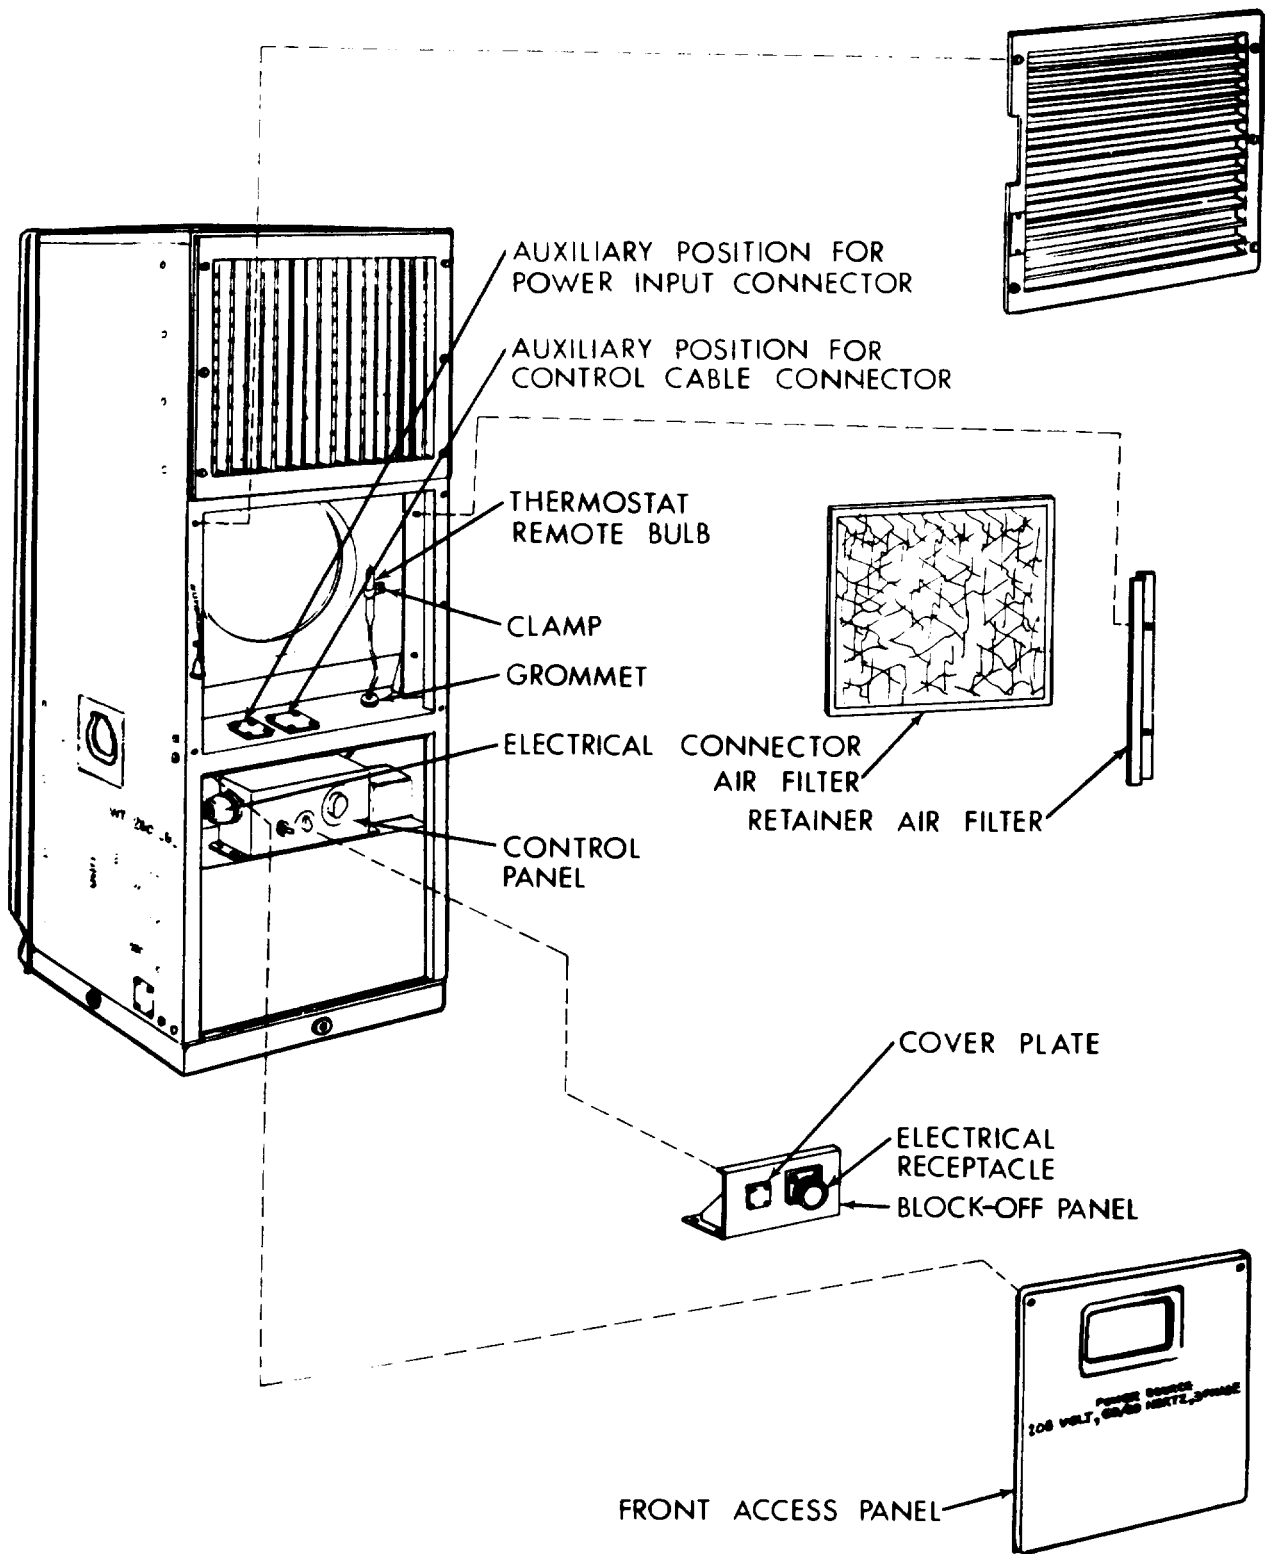
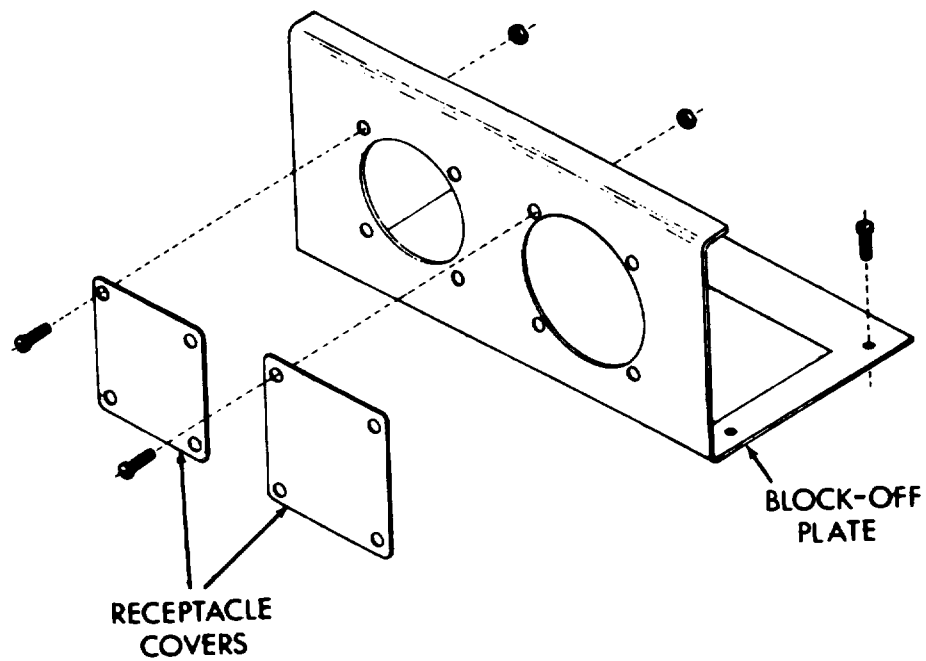

Figure 4-2. Remote Control
Figure 4-3. Block-Off Panel
- (3) Disconnect the wiring harness connector from the receptacle on the left end of the control panel assembly (figure 4-2).
- (4) Remove the four screws securing the control panel assembly to the junction box. Retain the screws.
- (5) Remove the air filter.
- (6) Loosen the loop clamp which retains the temperature control thermostat sensor bulb on the right-hand side of the evaporator fan. Lead the bulb and capillary tube carefully through the grommet while removing the control panel from the air conditioner. Coil the capillary tube carefully, and mount the sensor bulb in the outside cavity of the control panel housing, using the loop clamp from its original location.
- (7) Install a block-off assembly on top of the junction box, in the same position as that from which the control panel assembly was removed. Secure with the four screws retained in step (4). (See figure 4-3).
- (8) Mount the control panel assembly in the desired remote location, and mount a new receptacle, MS3106R-28-11S, in the appropriate position in either the block-off plate or the partition between the evaporator intake louver and the air filter.